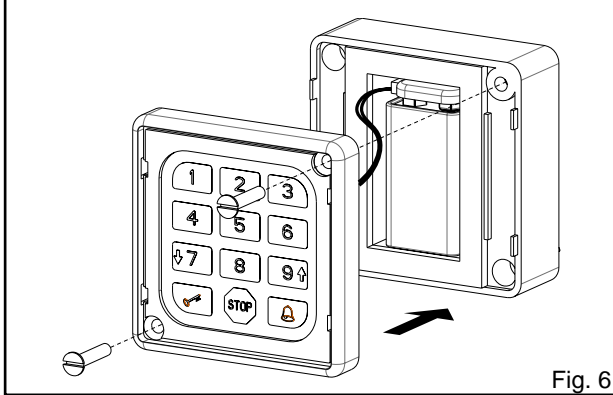

Fig. 6
- Once the battery casing has been fixed to the support, fit the keyboard front with the battery connected and fix it with the 2 supplied screws (fig. 6);